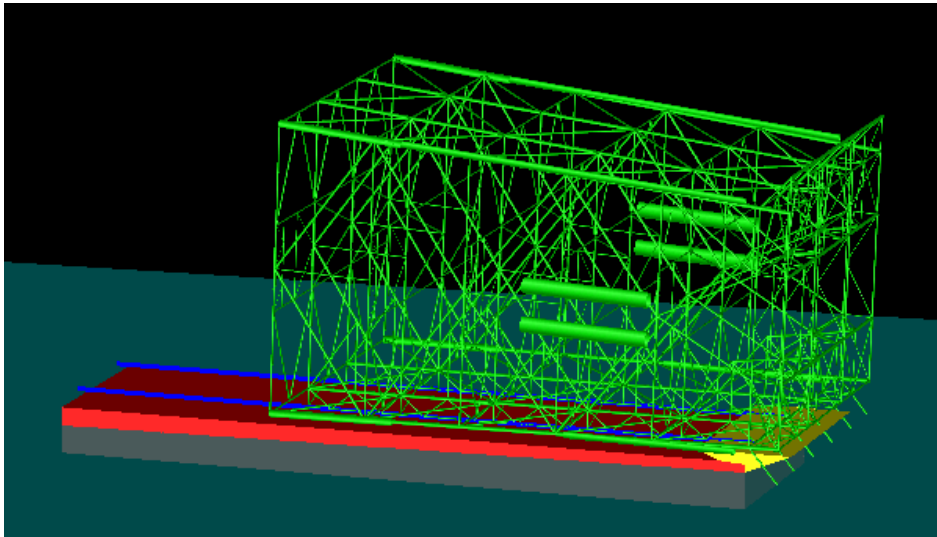

Figure 11.4 Jacket placed on barge after positioning
- The POSN option is specified using data from the output generated during the positioning run. The data of interest here are the positions of the barge and jacket when velocities and accelerations are zero, i.e. when an equilibrium position is attained. The x-coordinate of the COG of the barge is 25.44 in the FRA axis, whilst the barge coordinate components of interest are the heave and pitch as shown in Figure 11.4 above.